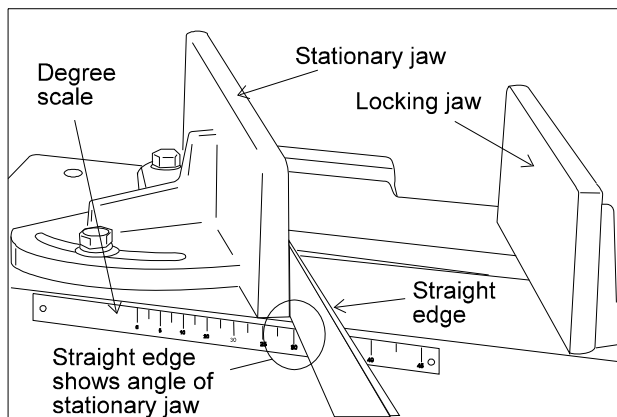

Figure 3: Using table scale to set jaw for angle cuts
4. Lay a straight edge on the saw frame so it contacts the stationary vise jaw. (See *Figure 3*.)